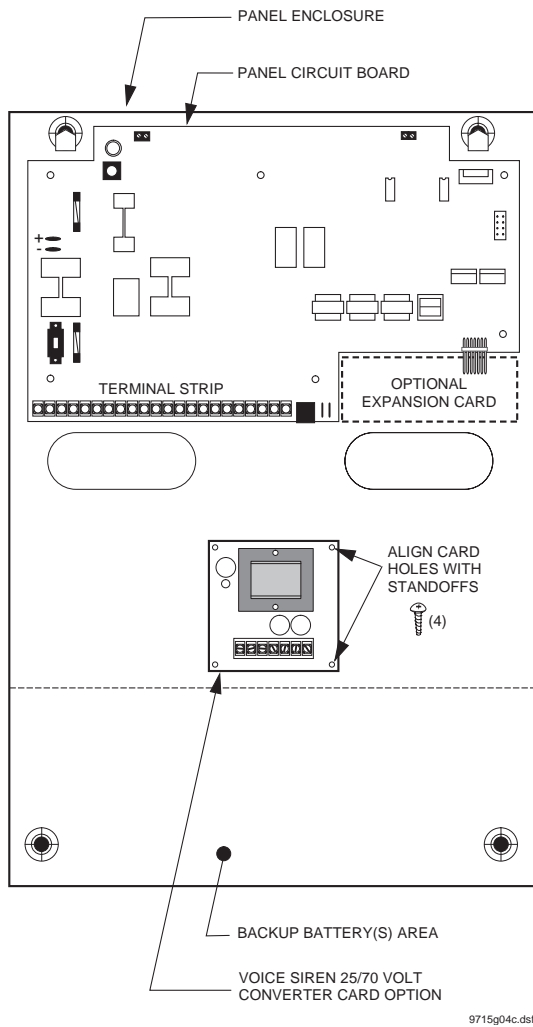

Figure 2. Mounting the Card in the Advent Panel
2. Place the card inside the cabinet below the panel circuit board (Figure 2).